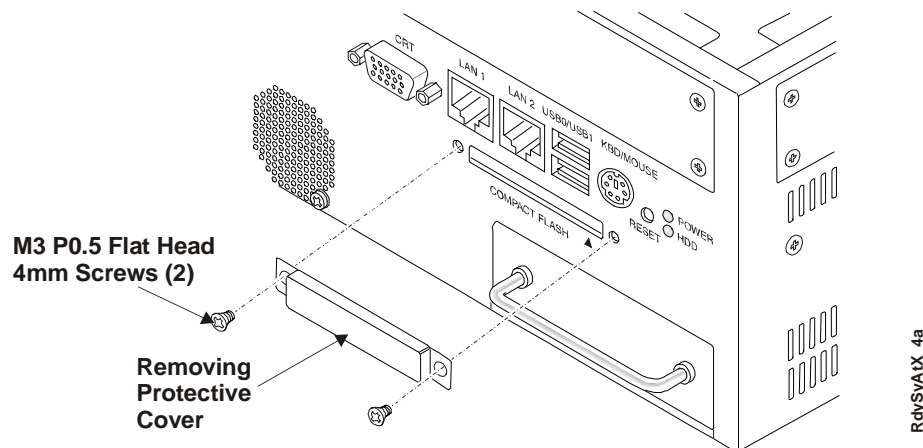

Figure 2-1. Removing Compact Flash Protective Cover
4. Use a Phillips screwdriver to remove the compact flash cover and place the two screws in a safe place for use later. See Figure 2-1.
9. If your application or environment requires protection of the compact flash card, for security or EMI value, you can re-install the protective cover over the compact flash card. See Figure 2-1. Reconnecting the protective cover will provide full EMI protection.